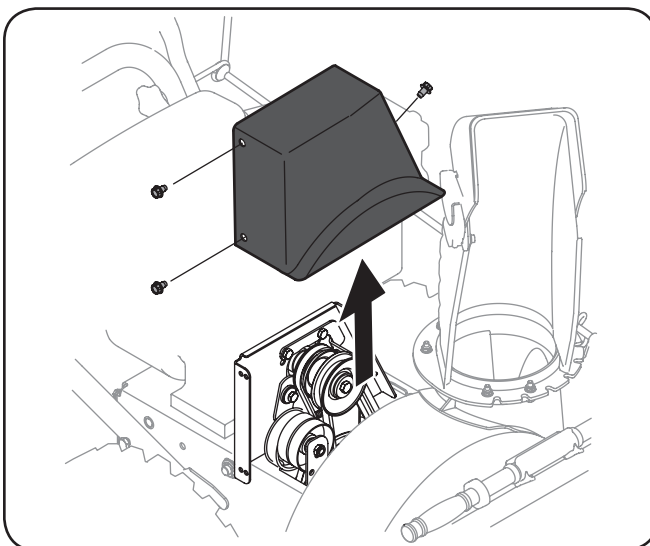

Figure 7-2
2. Remove the plastic belt cover on the front of the engine by removing the three self-tapping screws. See Figure 7-2.